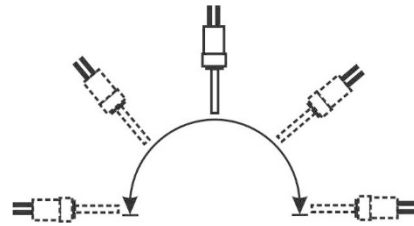

Fig. 1
Installation (Fig. 1):
- Mounting directions per Fig. 1 in order to prevent the collection of contaminant in pressure sensing element.